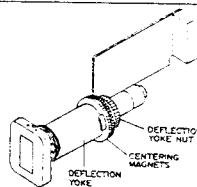

Fig. 4-71
### (1) Deflection Yoke Position Adjustment (Fig. 4-71)
### (2) EVF Centring Adjustment (Fig. 4-71)